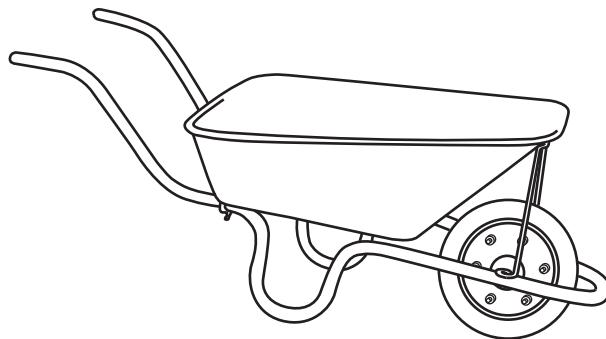

Fig. 2
- 2 Fig. 2 shows a wheelbarrow.
- (a) (i) Add a label to Fig. 2 to indicate the position of the fulcrum.